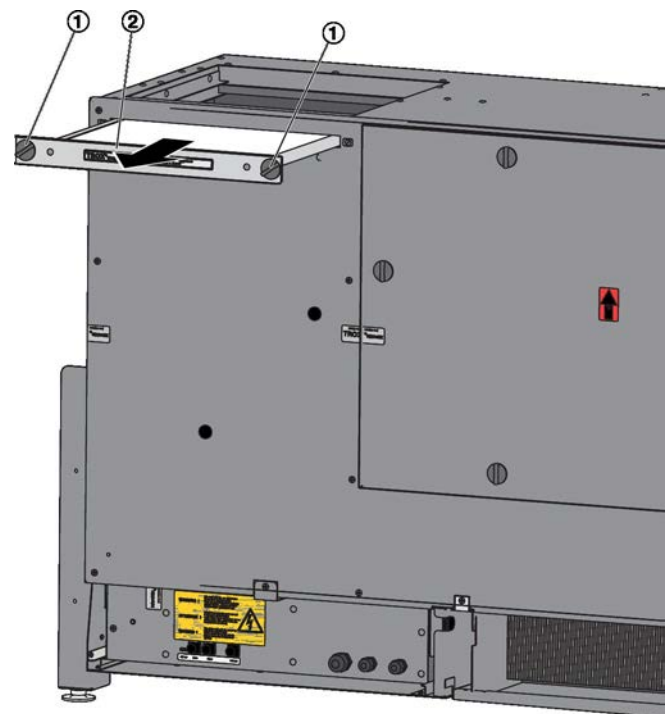

Fig. 22: Coarse dust filter
8. ▶ Open the fasteners (Fig. 22/1) by turning them (¼) and remove the filter (Fig. 22/2).